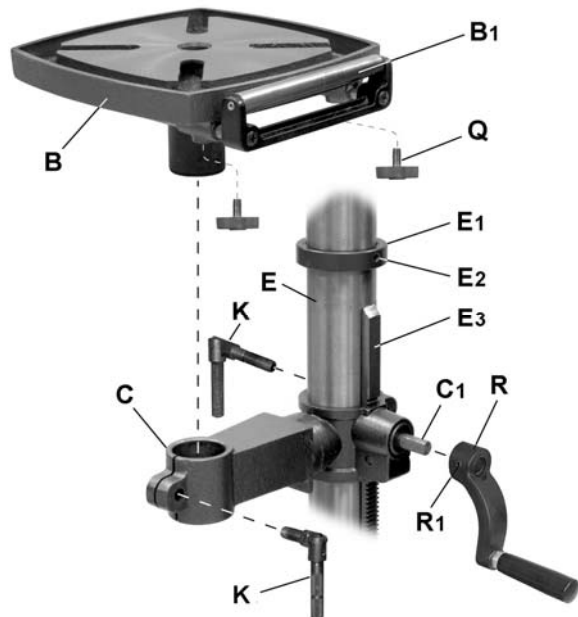

Figure 4
Refer to Figure 4:
1. Remove *rack ring* (E₁) and *rack* (E₃) from *column* (E). Note which end of the rack is up. It must be reinstalled later with the same side up.
2. Place *rack* (E₃) inside *table support* (C) such that the teeth of the *rack* (E₃) mesh with the pinion gear on the end of the table crank handle *shaft* (C₁).
3. Slide table arm/support assembly (C) together with the *rack* (E₃) onto the *column* (E) as shown.
4. Place *rack ring* (E₁) onto *column* (E), sliding it down so it rests against *rack* (E₃) as shown, and tighten *setscrew* (E₂) with a 3mm hex wrench (provided).
5. Place *table* (B) onto *table arm* (C), positioning it as shown in Figure 4. Secure table with *lock handle* (K).
6. Secure table extension (B₁) with two *table extension lock knobs* (Q).